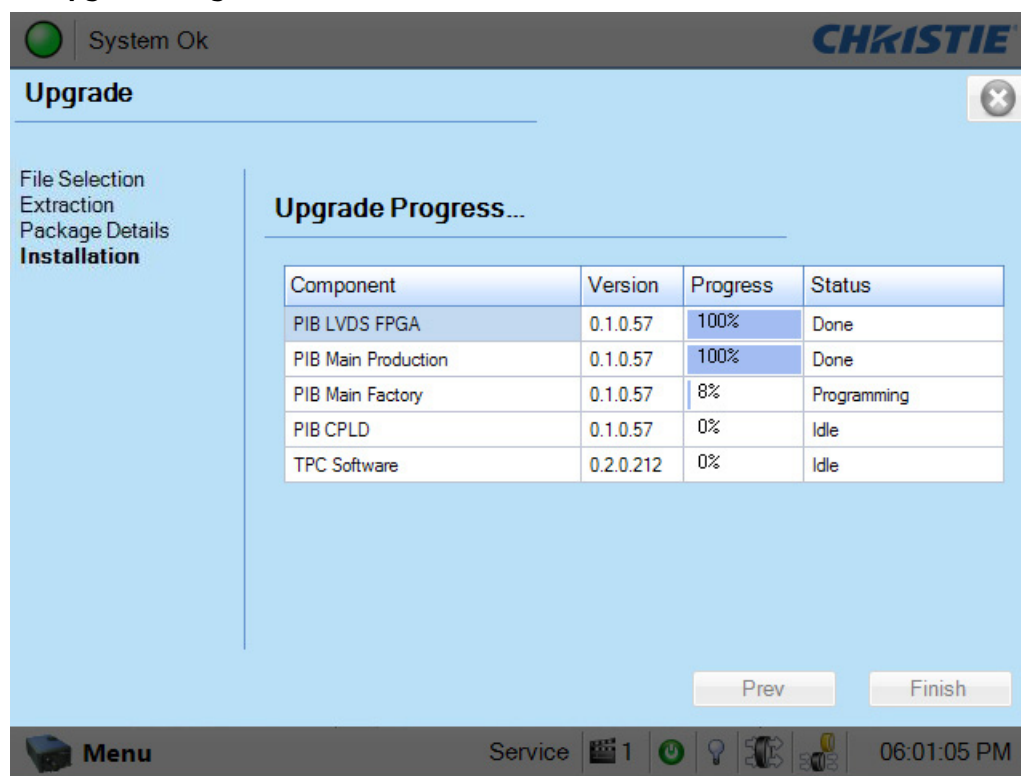

Figure 3-10 Upgrade Progress Window
5. The **Installation** window displays the state of the upgrade progress (**Figure 3-10**). On successful completion or failure of the installation, a dialog will display indicating the state of the upgrade. Click the **OK** button. At this point, the TPC will reboot in order to install the TPC user interface software. The TPC will shut down, reboot, and display an install progress window as the user interface is installed. Once complete, click the **Finish** button to return to the **Main** panel.